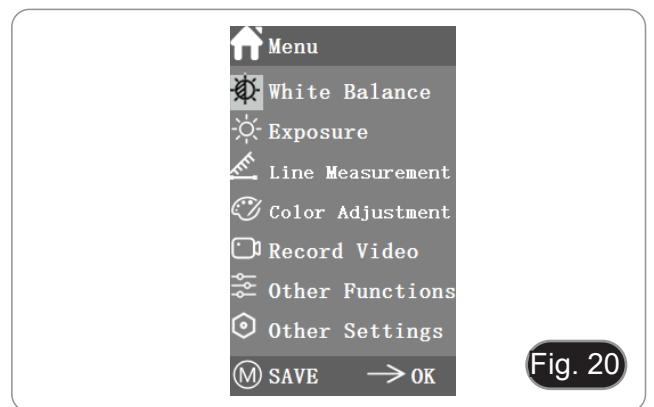

Fig. 20
2. The position of the current cursor (that is, the position of the highlighted icon) is the white balance function option. (Fig. 20)